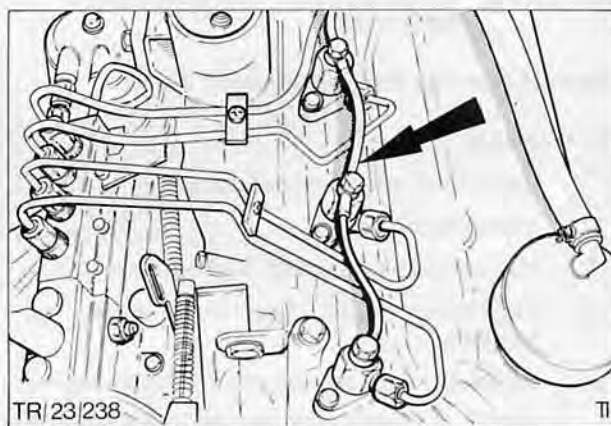

Fig. 64. Injector leak off pipe
4. Disconnect leak off return pipe and pipe to injector connections. Remove pipe, Fig. 64.